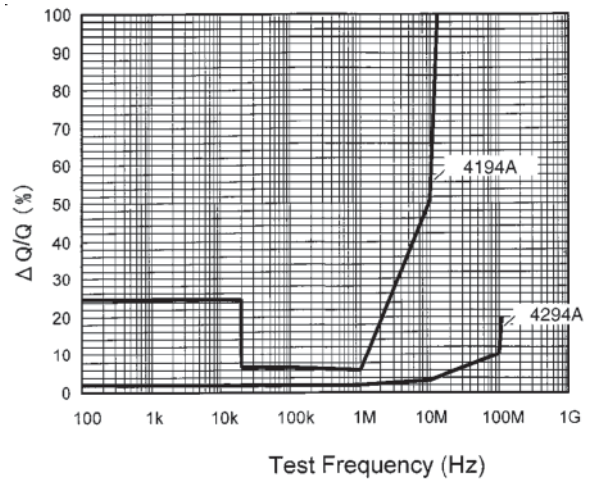
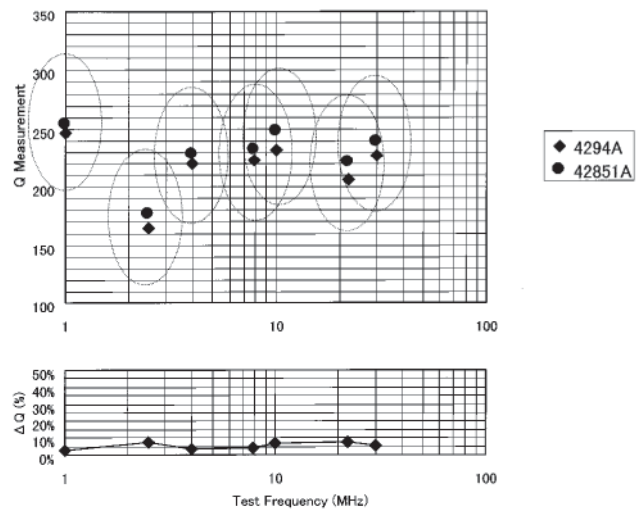

Figure 8. 4294A/4194A Q measurement error (reference data)
Figure 9. Q measurement with the 4294A and the 42851A
In addition, the phase measurement capability has also been improved. Figure 8 shows the quality factor (Q) measurement accuracy of the 4194A compared to the 4294A (Q of 100). The 4294A can maintain 10% accuracy or better in the lower frequencies (100 Hz to 10 MHz). Formerly, the Agilent 42851A (resonant method) was widely used for accurate Q measurement. The improved accuracy of the 4294A enables Q measurement with the same level of reliability as with the 42851A. Table 3 and Figure 9 show a comparison of a Q measurement result when using these instruments. The upper graph shows the actual results, while the lower graph shows the percentage difference between these measurement results, and demonstrates good correlation. The operation of the 4294A is much easier than that of the 42851A, and so the 4294A is highly recommended for Q measurement.